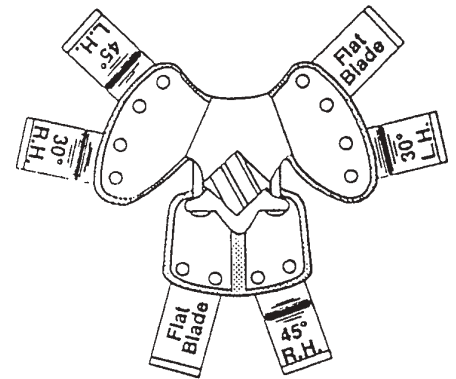

Figure 2
1. Starting with the L.H. Rotor Assembly (above) with blades assembled as in figure 2, place a 4-Blade Rotor Half (RB-44) in position on top of the shaft (hub of rotor to the right). Position center of rotor approximately 6" from inside of housing end. Insert 3/4" carriage bolts with heads up and attach 2-Blade Rotor Half (RB-42) as shown in figure 1. Tighten into place.
2. Rotate shaft 1/4 turn backward (top blade toward you) and position 4-Blade Rotor Half (RB-44) B with blades assembled as in Figure 2 (Hub of rotor to the right). Insert 3/4" carriage bolts with hands up and attach 2-Blade Rotor Half (RB-42) as shown in figure 1. Tighten into place 12" from center to center of first rotor (see above).
**NOTE:** All rotors and blades are mounted as shown in figure 2 except the last rotor. The blades are mounted the same on the last rotor, but the hub is reversed as explained in #4. RH and LH blades are insignificant as long as the blades are mounted opposite each other as shown in figure 2. (Blades are not stamped RH or LH.)